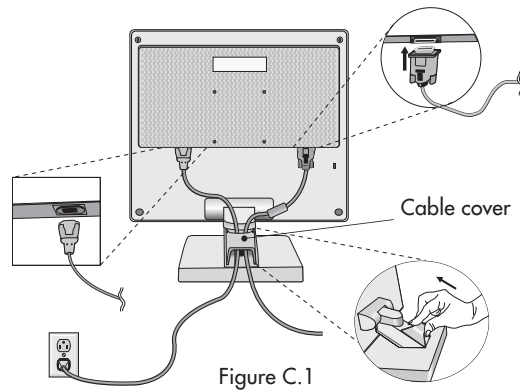

Figure C.1
4. Connect one end of the power cord to the monitor and the other end to the power outlet. Place the Video Signal Cable and power cord under Cable cover (**Figure C.1**). Replace cable cover.
5. Connect one end of the power cord to the monitor and the other end to the power outlet. Place the Video Signal Cable and AC power cord under Cable cover (**Figure C.1**). Replace cable cover.